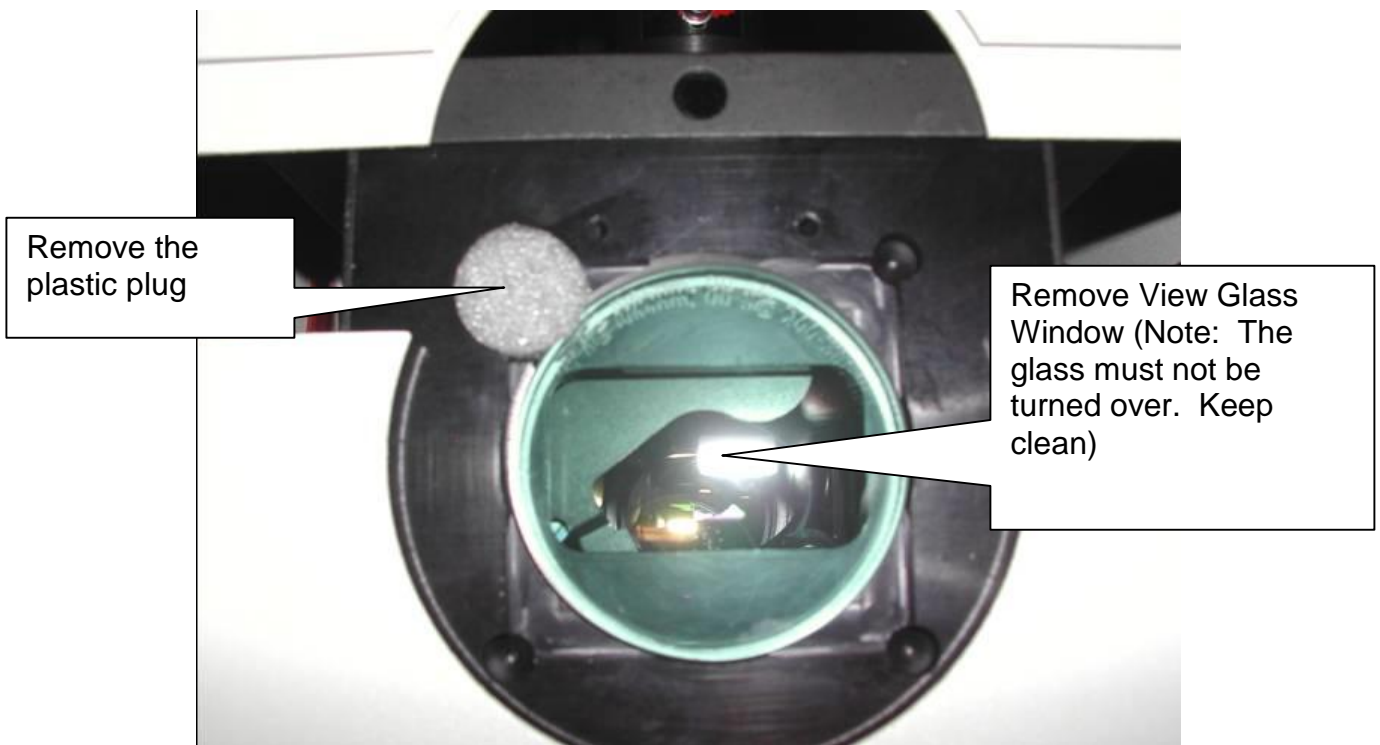

Figure 4
- J Remove the View Glass Window **Figure 4** (Note: Keep the window clean)
- J Remove the plastic plug **Figure 4 & 5**